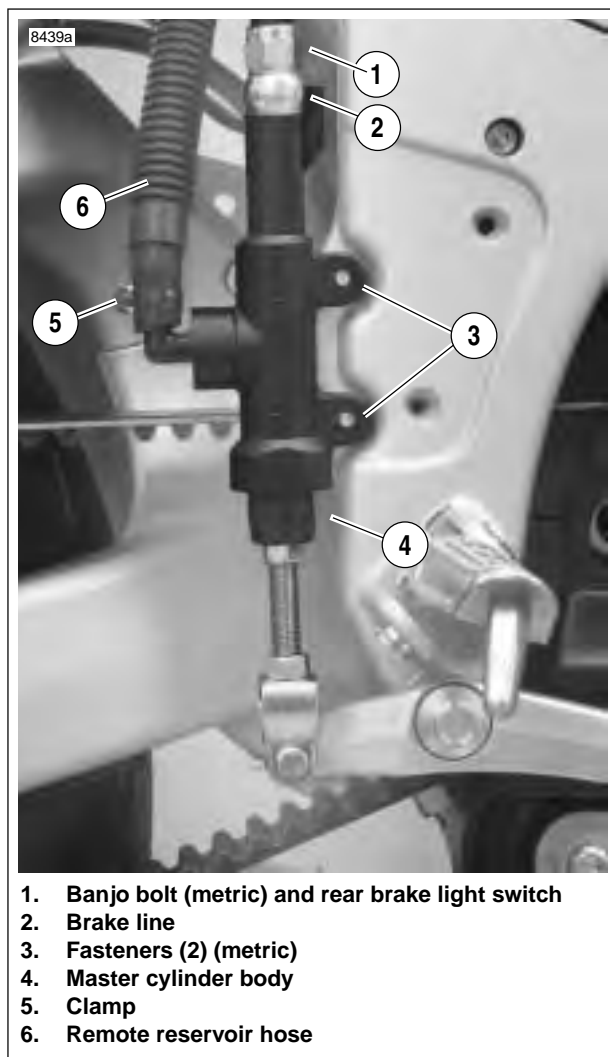

**Figure 2-48. Brake Bleeder Valve, Rear Caliper**
1. See Figure 2-48. Drain brake fluid into a suitable container. Discard used fluid according to local laws.